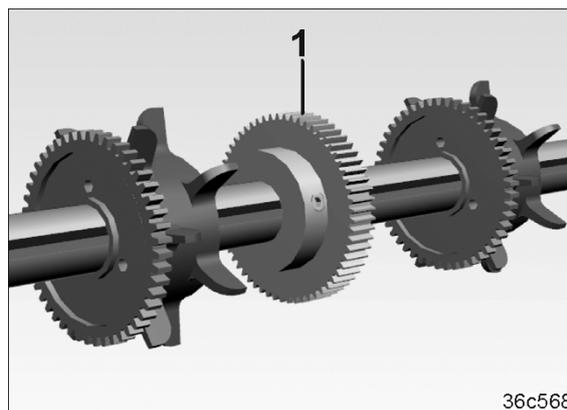

Fig. 230
8. Mount the gear wheel (Fig. 230/1) onto the bean seeding shaft.